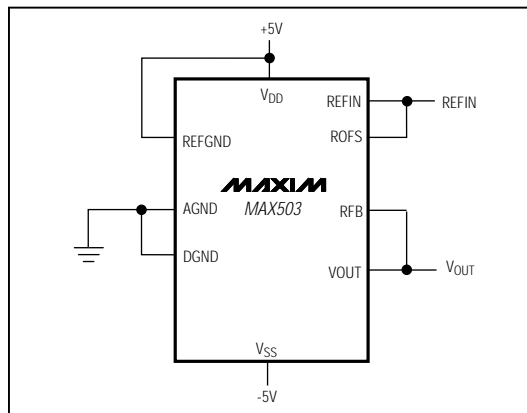

Figure 12. Four-Quadrant Multiplying Circuit
The MAX503 can be used as a four-quadrant multiplier by connecting ROFS to REFIN and RFB to VOUT, and using (1) an offset binary digital code, (2) bipolar power supplies, and (3) a bipolar analog input at REFIN within the range V_{SS} + 2V to V_{DD} - 2V, as shown in Figure 12.